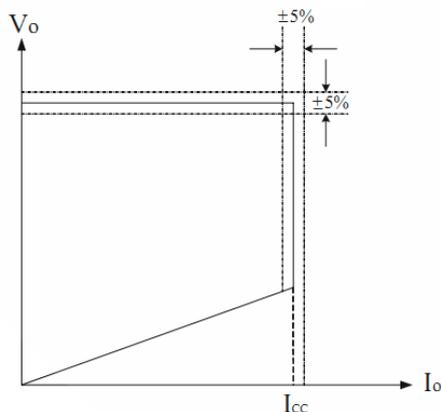

Fig.1. Typical CC/CV Curve
Proprietary Constant Voltage (CV) and Constant Current (CC) control is integrated as shown in the Fig.1. In CC control, the current and output power setting can be adjusted externally by the sense resistor R_S at CS pin. In CV control, multi-mode operations are utilized to achieve high performance and high efficiency.